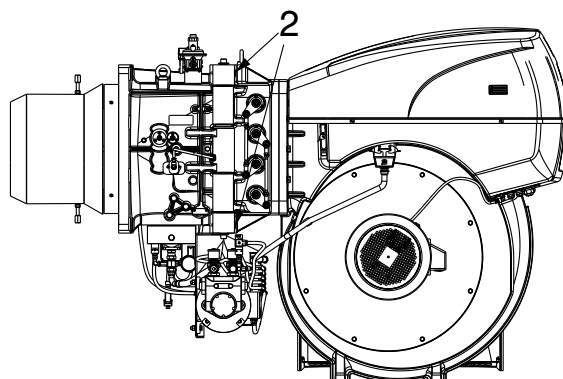

Fig. 42
- Disconnect the socket 1)(Fig. 42) of the oil/gas servomotor;